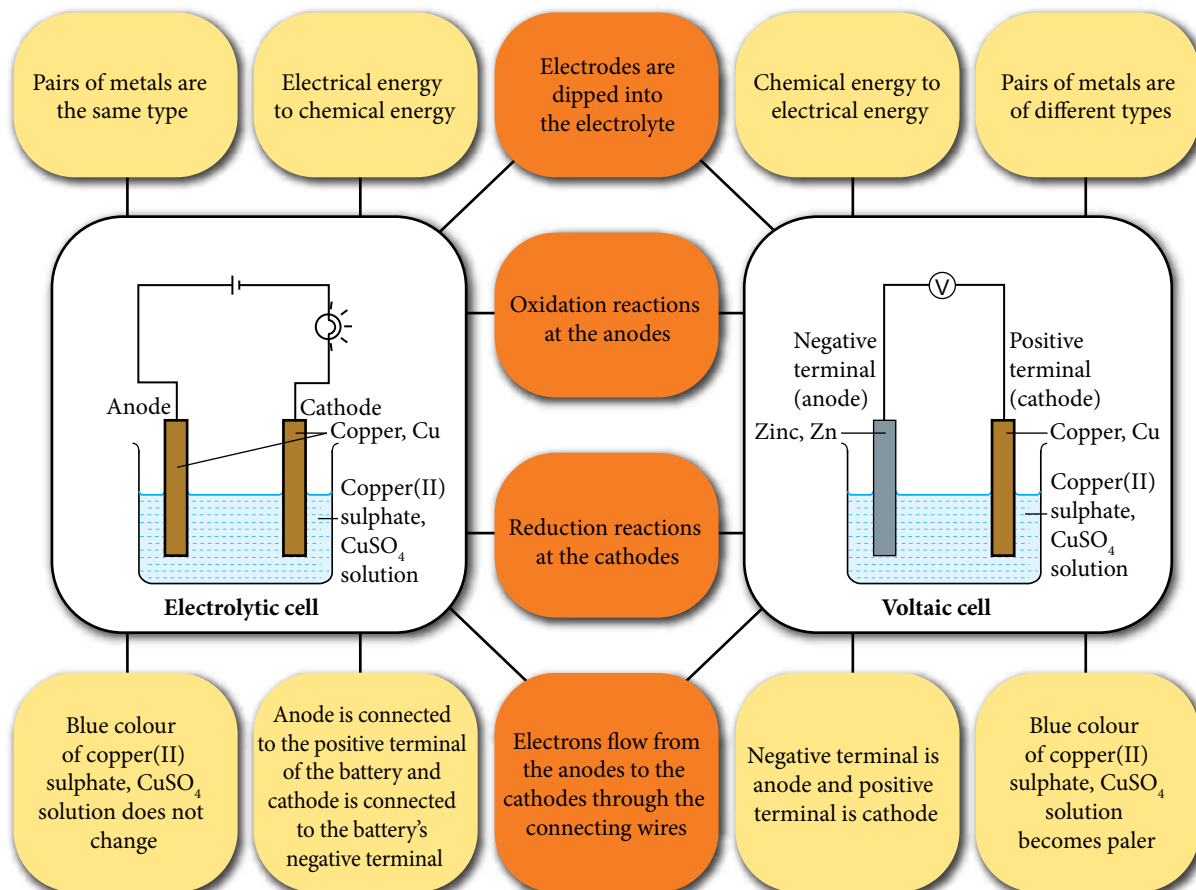

Figure 1.32 Similarities and differences between voltaic and electrolytic cells
- Figure 1.32 shows a double bubble map comparing chemical cells with electrolytic cells.
1. Based on Figure 1.32, write the half equations for the reactions at the electrodes and explain the differences in observations of both cells.